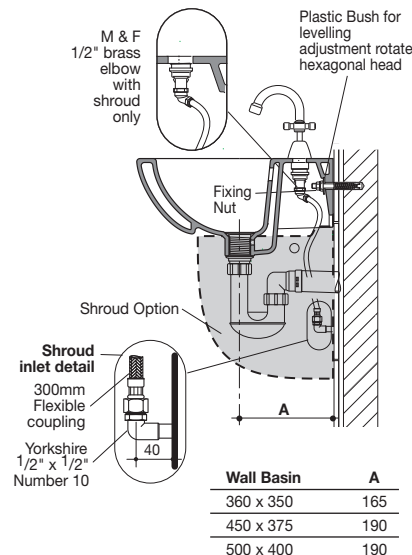

Fig. 3
- 5- Locate basin onto the Fixing Screws on the wall. Insert plastic bushes, metal washers and fasten to wall with fixing nut. To complete assembly as detailed in **Fig. 3**.
- 6- The Plastic Bush allows for levelling adjustment if required by rotating the hexagonal head bush, the basin will be slightly raised or lowered as shown in **Fig. 3**.